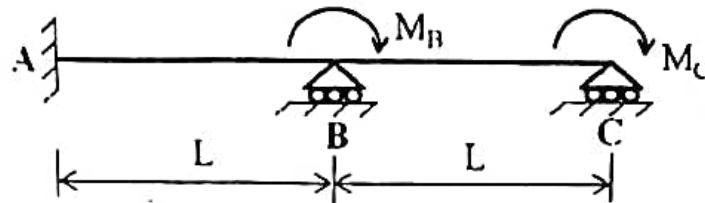

Fig. 1
- (b) A uniform cross-section two span continuous beam is shown in Fig. 1. If the rotations at B and C are same then find the ratio of  $M_B / M_C$ .